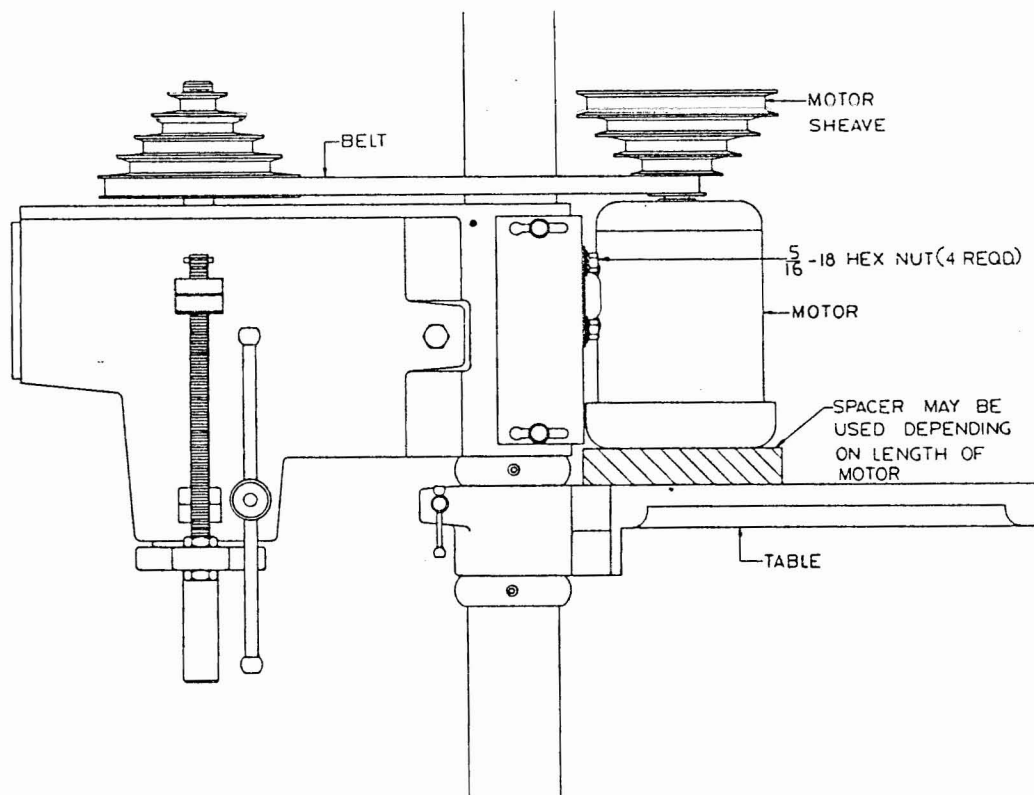

FIGURE 1
- b. Raise drill press table as shown in Fig. 1. Place motor upright on table and install motor to motor mount, using (4) 5/16—18 hex nuts. Align motor and spindle pulley and tighten motor pulley setscrews.
- b. Raise drill press table and lock in position (Fig. 1). Place motor on table in upright position and attach motor to motor mount, using (4) 5/16—18 hex nuts.